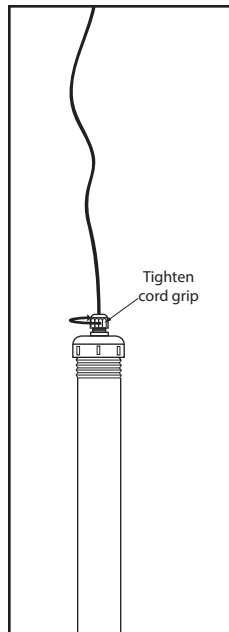

FIG. 27
- E) Tighten cord grip after applying some slack to cable. See FIG 27.